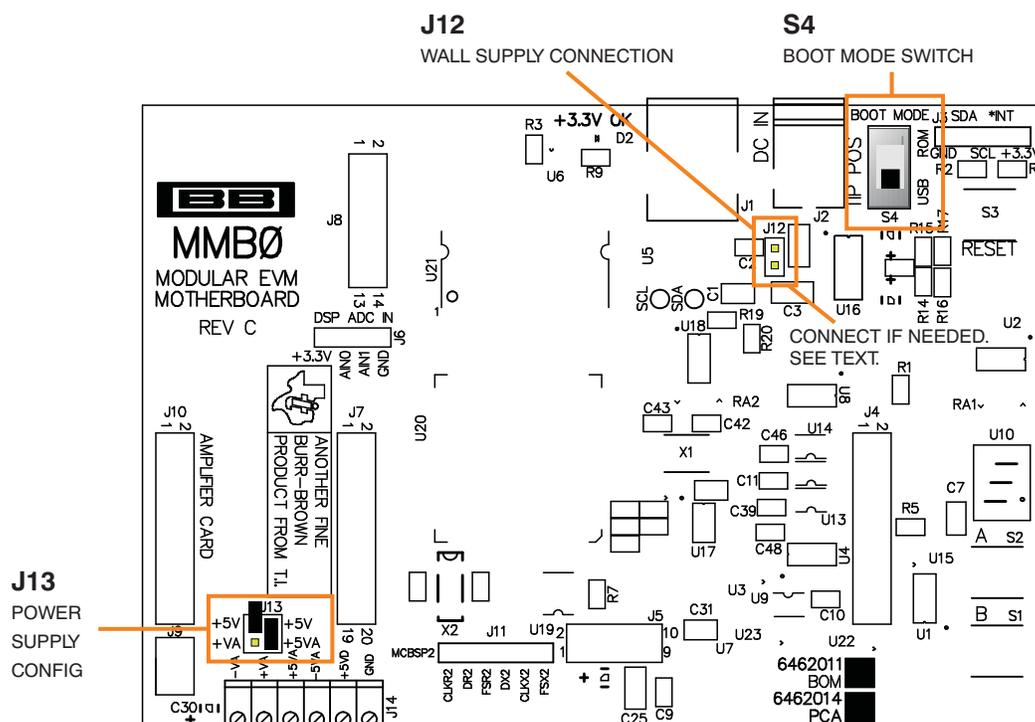

Figure 8. MMB0 Initial Setup
- Step 2. Set the jumpers and switches on the MMB0 as shown in Figure 8.